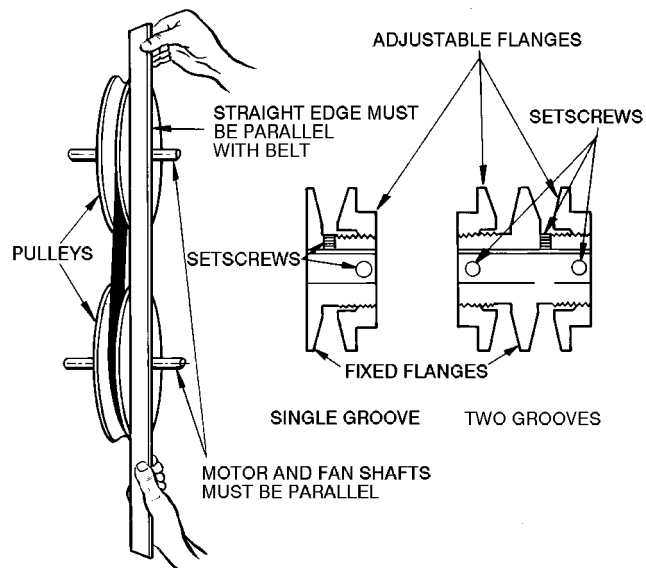

Fig. 21 — Fan Pulley Adjustments
3. Use the methods shown in Fig. 21 to check proper pulley alignment.
2. Loosen setscrew in moveable flange of pulley. Screw moveable flange toward fixed flange to increase the fan speed and away from fixed flange to reduce speed. Before tightening setscrew, make certain that setscrew is over nearest flat surface of pulley hub (Fig. 21).